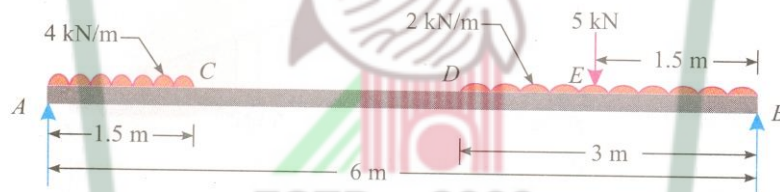

Fig. 13.21
- c) A simply supported beam AB , 6 m long is loaded as shown in fig.13.21. Construct the shear force and bending moment diagrams for the beam and find the position and value of maximum bending moment. Show all the calculations. 10